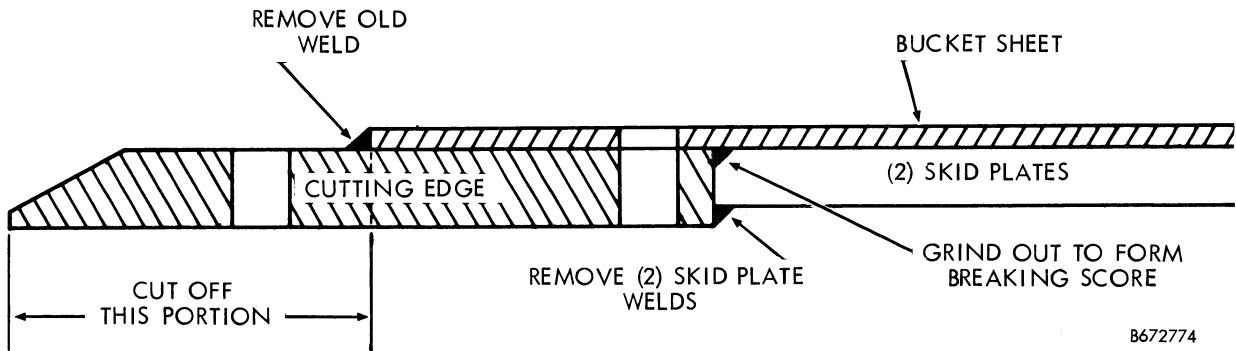

Figure 14 - Removing Cutting Edge
1. Refer to Figure 14. Remove the teeth and shanks, if so equipped.